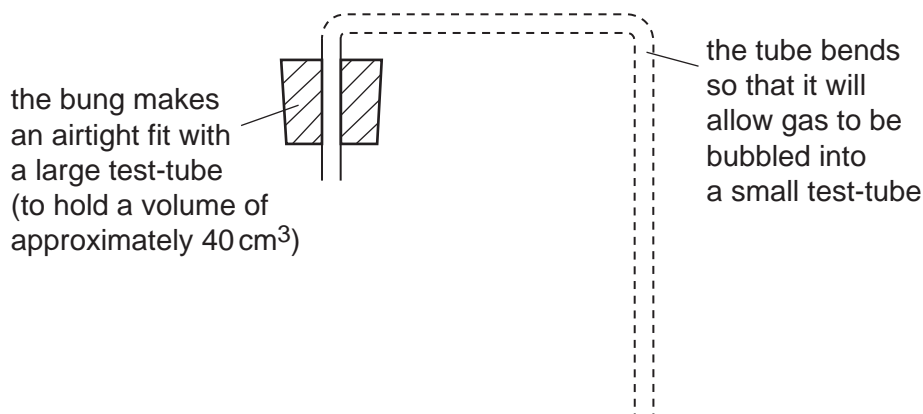

Fig. 1.1
- the tube bends so that it will allow gas to be bubbled into a small test-tube as in Fig. 1.1.